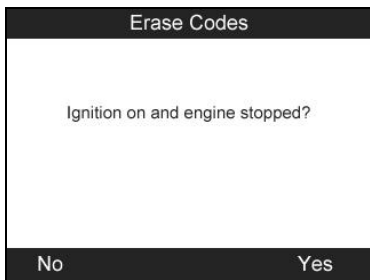

Figure 3.24
2. A notice screen will prompt up to let you confirm the vehicle state, check if the ignition is on and the engine is stopped. Press the **Y** button to continue, otherwise press the **N** button to exit. (Figure 3.24)